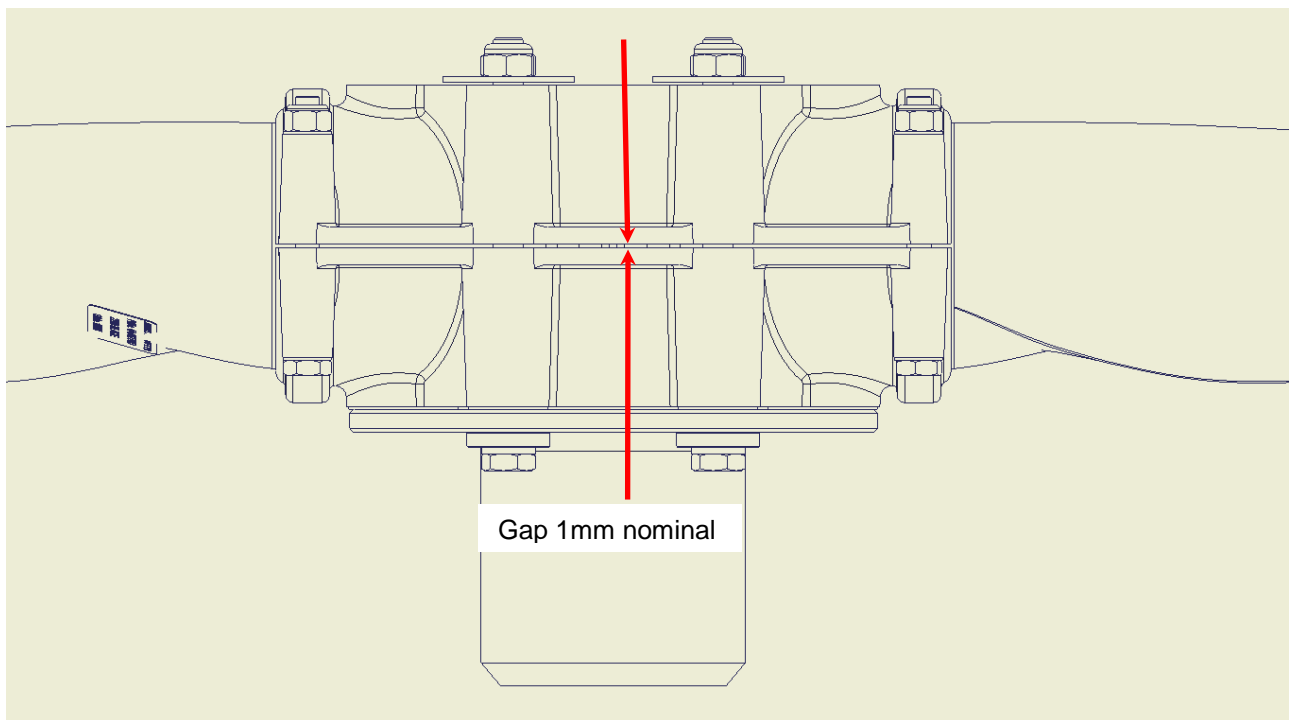

Figure 5 – Hub Gap (View from beside hub)
6. Ensure that the gap between the front and rear hubs is even on both sides (Figure 5).